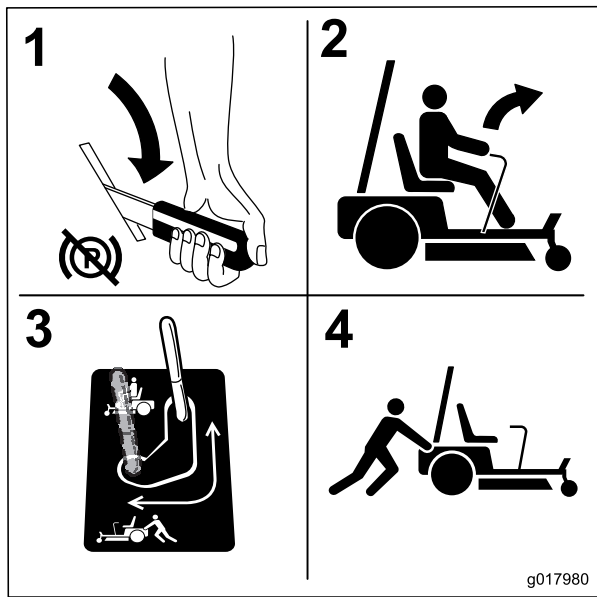

Figure 32
5. Move the bypass levers rearward and then down to lock them in place as shown in Figure 32 to disengage the wheel motors.
Move the bypass to the position for operating the machine (Figure 32) to engage the wheel motors.